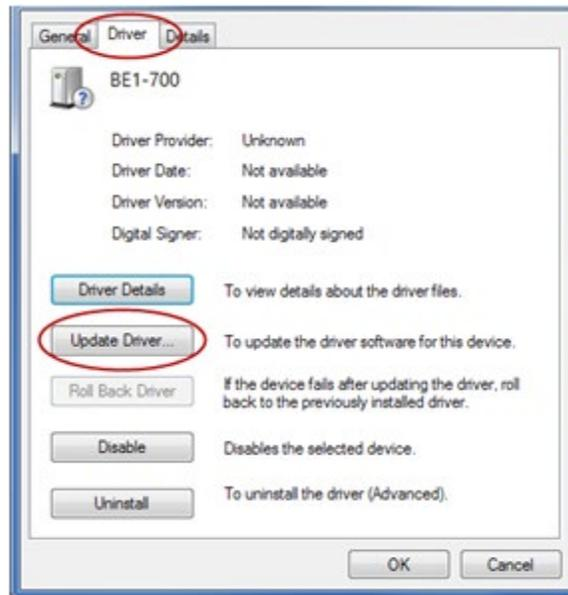

Figure 52-3. BE1-700 Properties
Step 3. In the Properties windows, select the Driver tab and click Update Driver. See Figure 52-3.